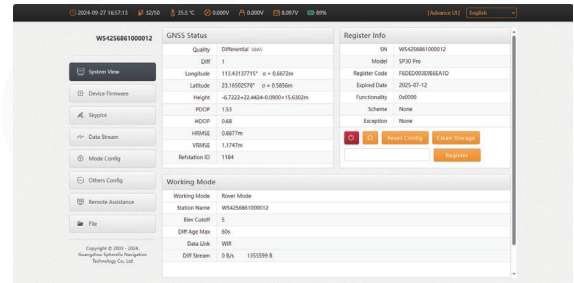

Figure 2
2. Open the web browser and input the IP address 10.10.10.10. The interface is shown in Figure 2.